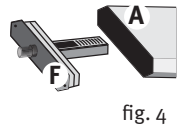

fig. 4
1. Cut Blades (A) 15mm shorter than the gap between the End Rails.
2. Complete Blade assembly by inserting End Caps (F) into each end of Blade (A) (fig.4)